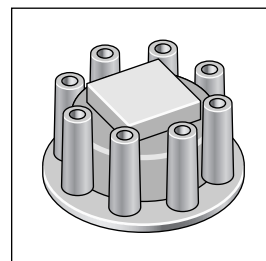

Figure 5-19: A distributor cap for an electronic distributor.
- ✓ The **distributor cap** (shown in Figure 5-19) sits atop the distributor to protect the parts inside from the elements. Current enters and leaves the distributor via the coil and spark plug wires that run through holes in the cap to each spark plug.